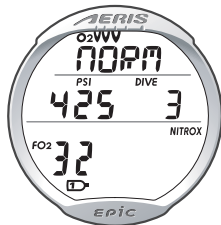

Fig. 40 - NORM SURF ALT
**NORM SURF ALTERNATE**, information includes (Fig. 40):